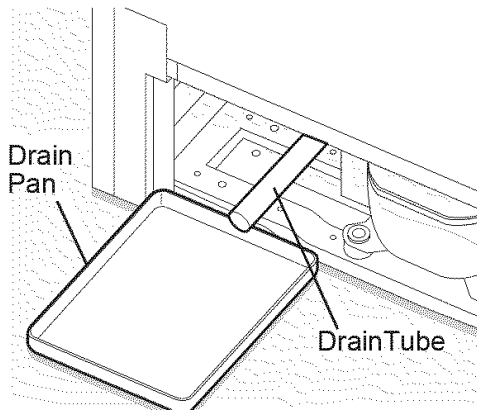
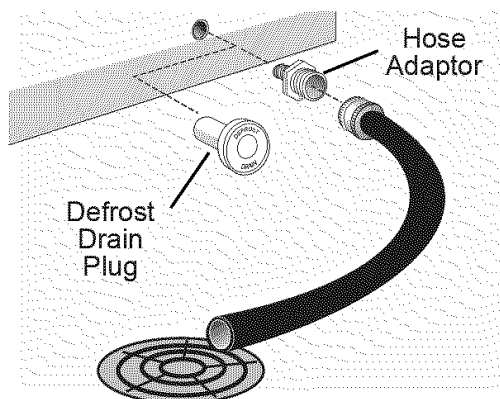
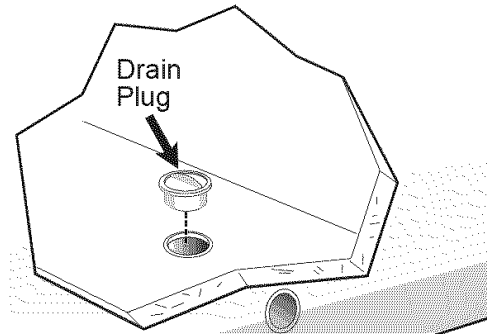

Figure 2
Figure 3
Figure 4
- **On chest models with a defrost drain,** place a shallow pan beneath the drain outlet (Figure 2). A ½ inch garden hose adaptor can be used to drain the freezer directly into a floor drain (Figure 3). If your model is not equipped with an adaptor, one can be purchased at most hardware stores. Pull out the drain plug inside the freezer, and pull off the outside defrost drain plug (Figure 4).